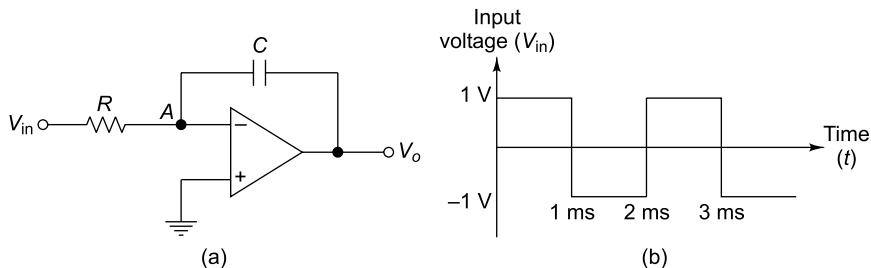

Fig. 5.42 (a) Circuit (b) Input voltage of Ex. 5.21
5.21 If a square wave is applied as input voltage to an integrator circuit as shown in Fig. 5.42, find out the output voltage. Assume \$RC = 0.1\$ second.